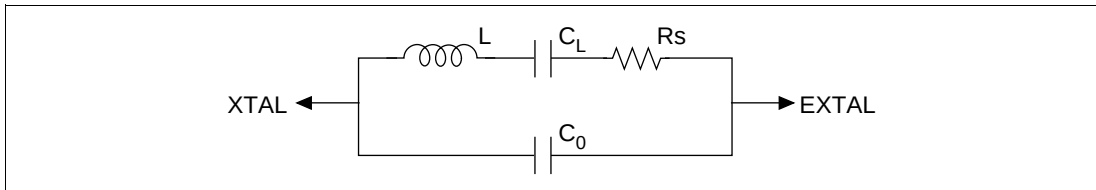

**Figure 7.3 Crystal Resonator Equivalent Circuit**
**Crystal Resonator:** Figure 7.3 shows an equivalent circuit of the crystal resonator. Use a crystal resonator with the characteristics listed in table 7.2.